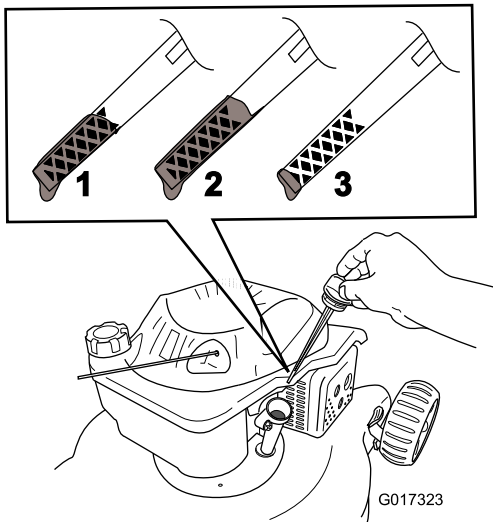

Figure 32
8. Remove the dipstick and read the oil level on the dipstick (Figure 32).